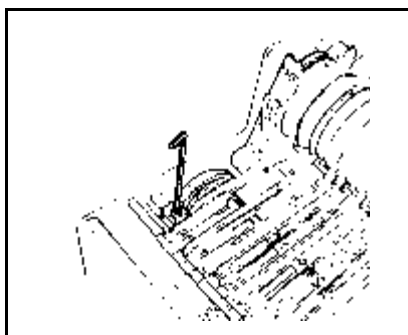
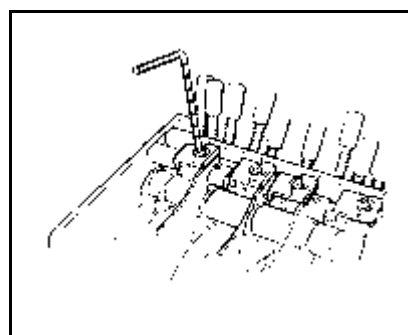

Figure 4-34. Lower bracket
Figure 4-35. Upper bracket
2. Fasten the lower bracket (Figure 4-34) and then the upper bracket (Figure 4-35). Some feedertypes may lack the lower bracket, for instance the 56 mm type. In these cases you only fasten the upper bracket.